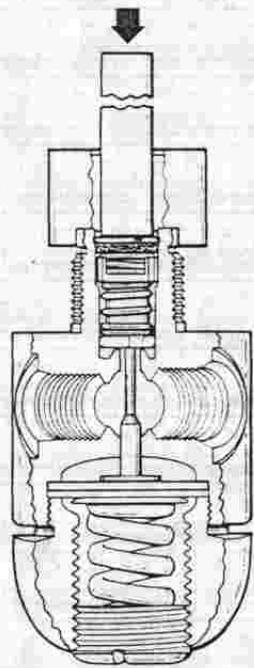

FIGURE 9
16. While holding the block guide, with the retaining ring centered over the hole and on top of the filter, apply sufficient pressure downward against the retaining ring, using a 1/2-inch flat-end wood dowel (see Figure 9), to force the retaining ring through the guide until it fully "locks" in its own groove in the inlet boss. At this point, the seat spring, spring block, spring, and sintered filter should be correctly positioned and "locked" in the boss. Check this positioning carefully before proceeding.